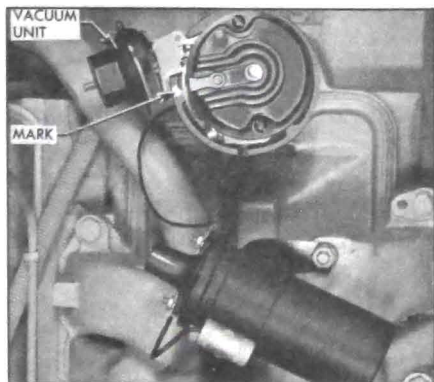

Figure 10-47—Installing Distributor in Engine
2. Install distributor in engine with rotor in position to fire No. 1 cylinder and with vacuum control in position to connect vacuum pipe. See Figure 10-47. Install distributor clamp and bolt with lock washer, leaving bolt just loose enough to permit movement of distributor with heavy hand pressure. NOTE: If distributor does not seat in engine block, press down lightly on distributor housing while cranking engine with starter. After distributor tang snaps into slot in oil pump shaft, start timing again from Step 1, leaving distributor installed.
2. Make a mark on distributor base in line with center of rotor. Then carefully note the direction of the vacuum unit points in relation to the engine so that the distributor can be replaced in the exact same position after it is serviced. See Figure 10-47. **CAUTION: If engine is turned over while distributor is out, complete ignition timing procedure must be followed (par. 10-33).**